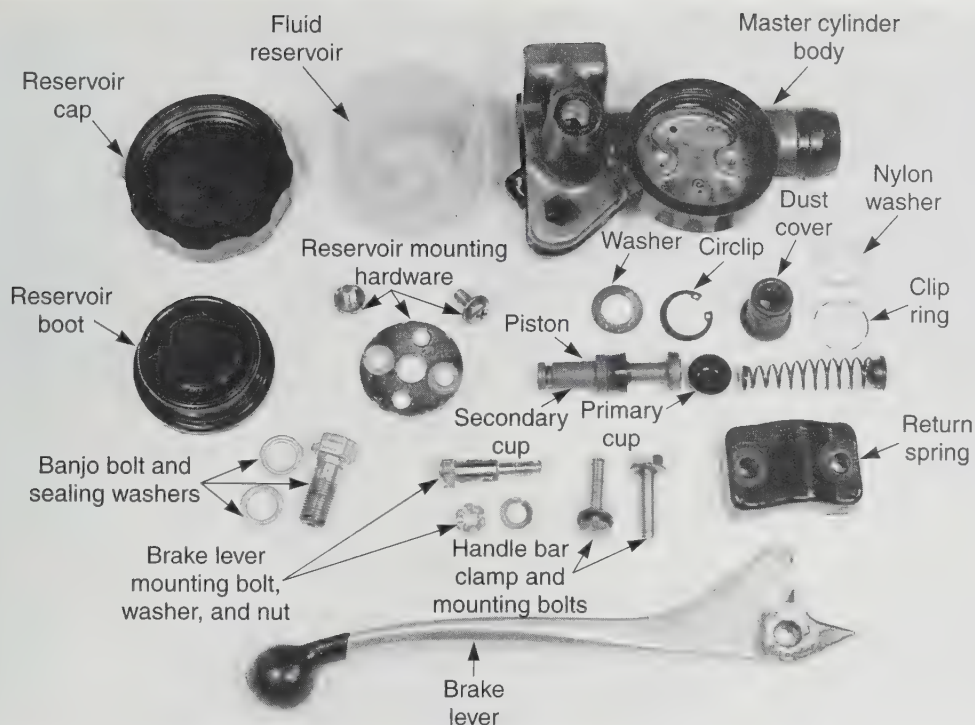

Figure 15-23. Completely disassemble the master cylinder before cleaning parts in a brake fluid solution or denatured alcohol.
1. Remove and disassemble the master cylinder following service manual instructions, **Figure 15-23**.